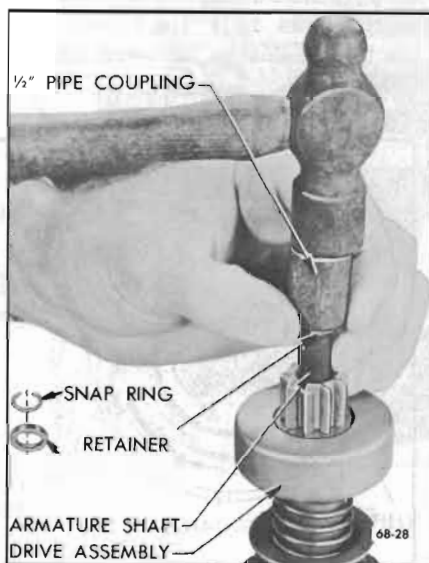

Figure 68-26—Removing Pinion Stop Retainer and Snap Ring
7. To remove drive assembly from armature, place a metal cylinder of proper size (1/2" pipe coupling will do) over end of shaft to bear against the pinion stop retainer. Tap retainer toward armature to uncover snap ring. See Figure 68-26. Remove snap ring from groove in shaft, then slide retainer and pinion drive assembly from shaft.